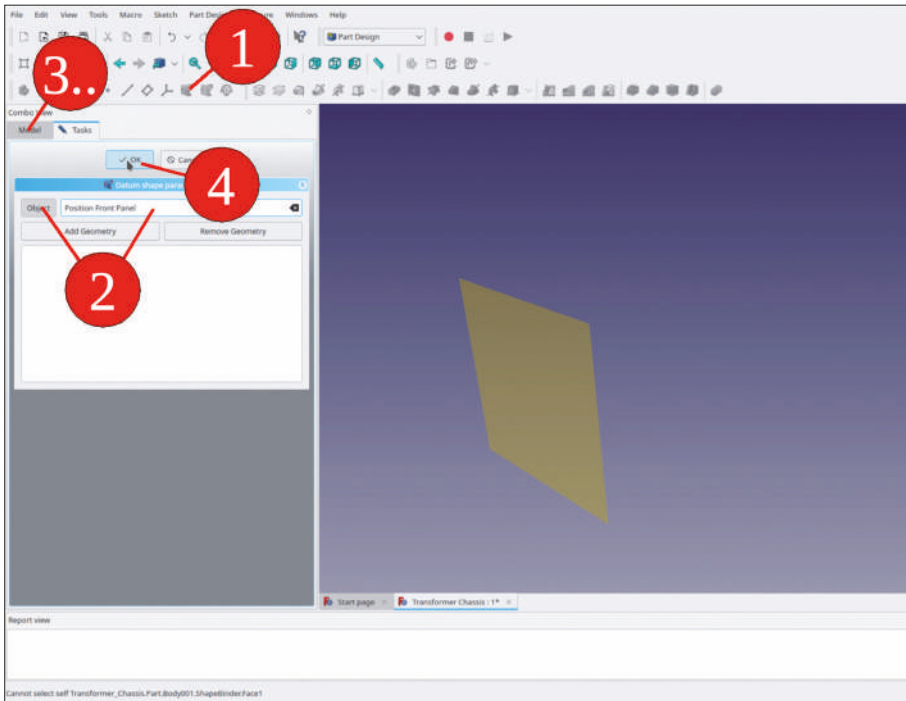

Figure 9-55
19. Click on the blue 'Create a shape binder' tool button. In the task window, click the button 'Object' until this turns dark gray. Then, click into the edit field next to the 'Object' button, which receives the focus (gets a blue rim). Switch to the 'Model' tab and select the datum plane 'Position Front Panel'. Return to the 'Tasks' tab and close the task window with the 'OK' button (Figure 9-55).